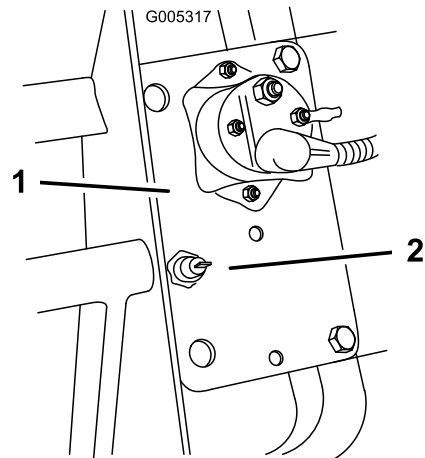

Figure 5
6. Install the fuse assembly to the solenoid plate (Figure 5).